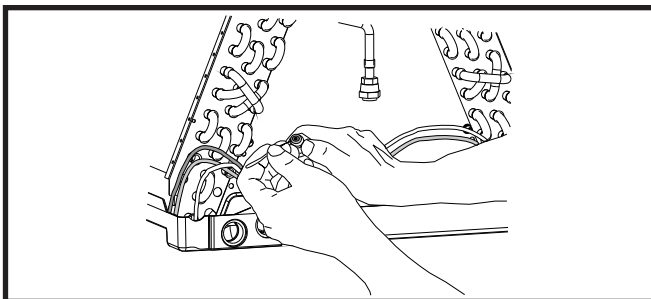

Figure 3. Removal of Orifice
- to scratch either part. Carefully remove the restrictor orifice from the distributor body. See Figure 3.
3. Insert a light-gauge wire hook between the distributor body and the restrictor orifice while being careful not to scratch either part. Carefully remove the restrictor orifice from the distributor body. See Figure 3.